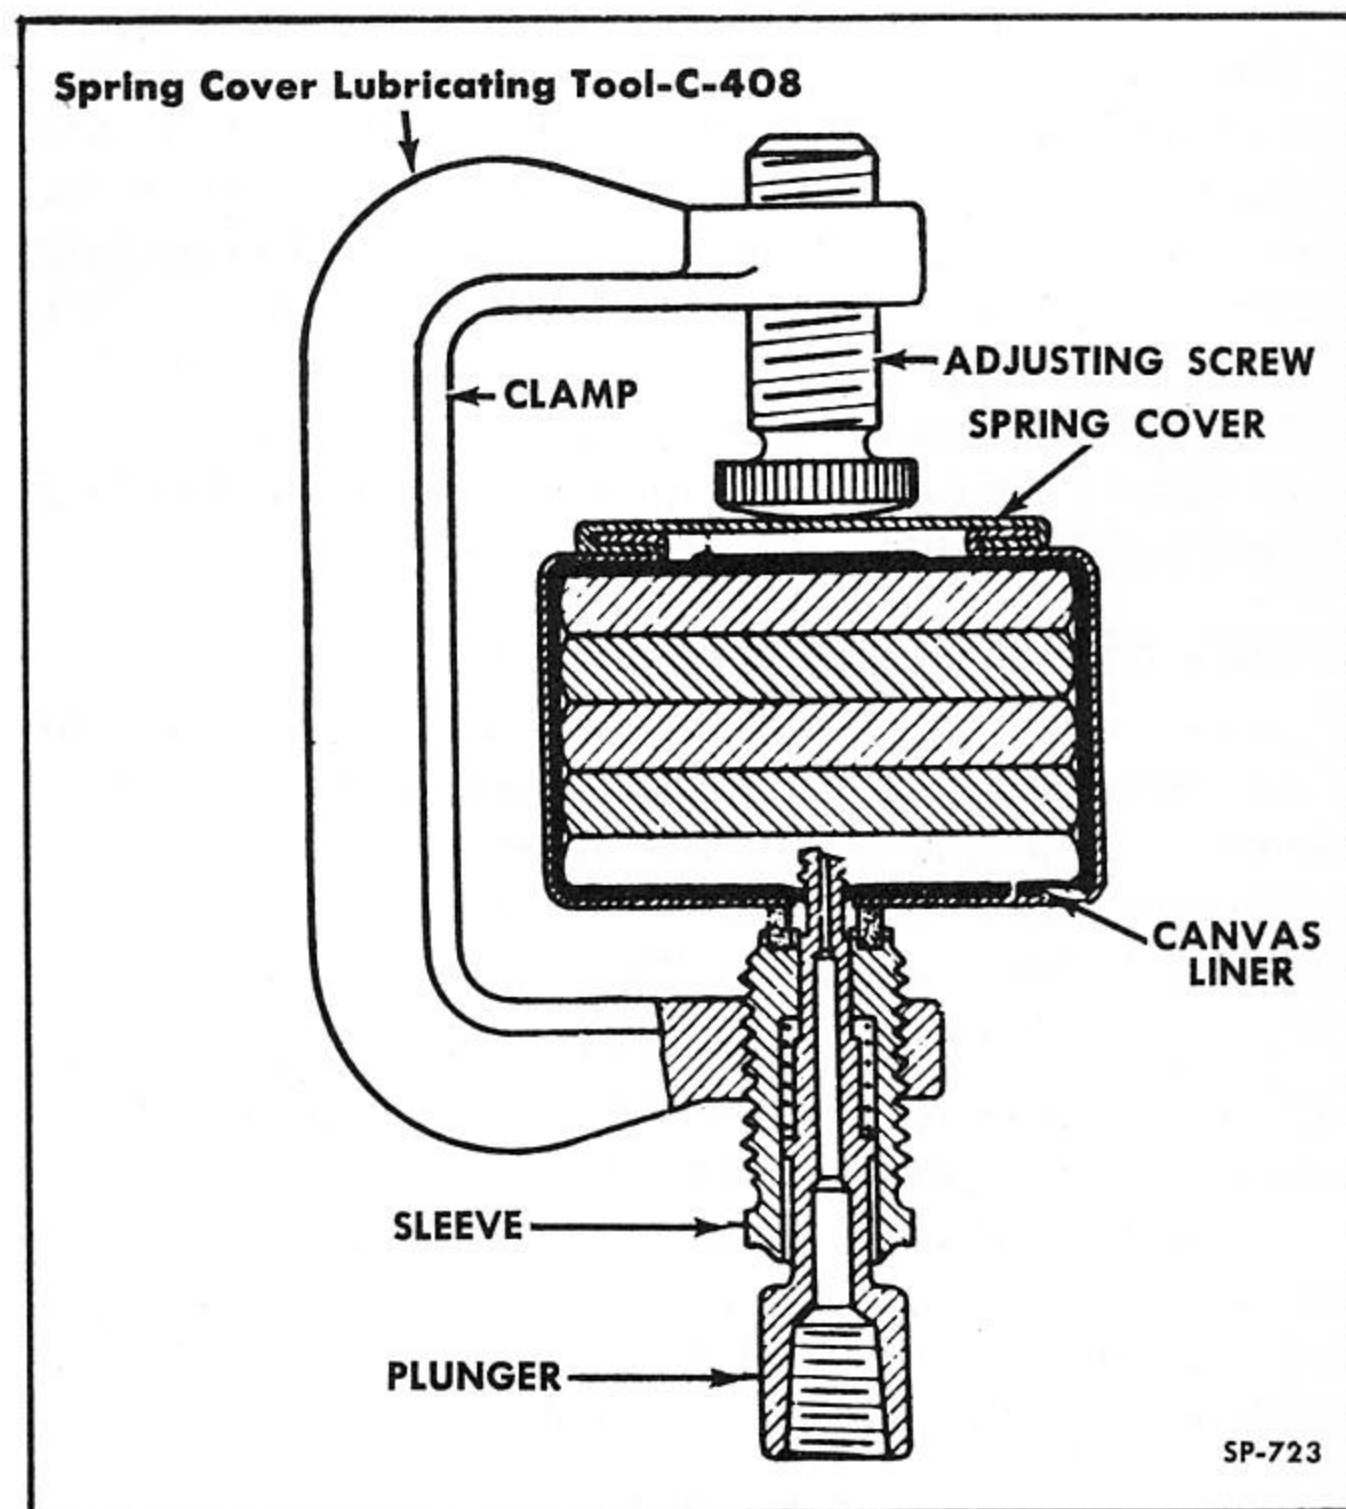

Fig. 312—Lubrication Tool for Rear Spring Covers
3. Set the adjustment screw of the Rear Spring Cover Lubricating Tool C-408 (Fig. 312) until the width of the clamp is a little more than the spring thickness.